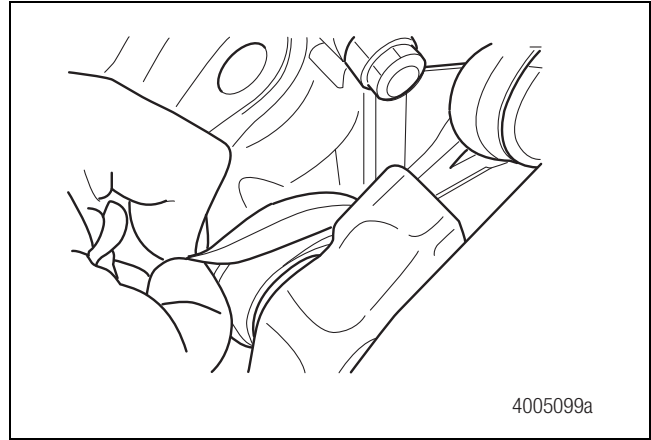

Figure 5.54
4. Verify that the slide pin boots are correctly located on both the carrier and housing retainers. Figure 5.54.